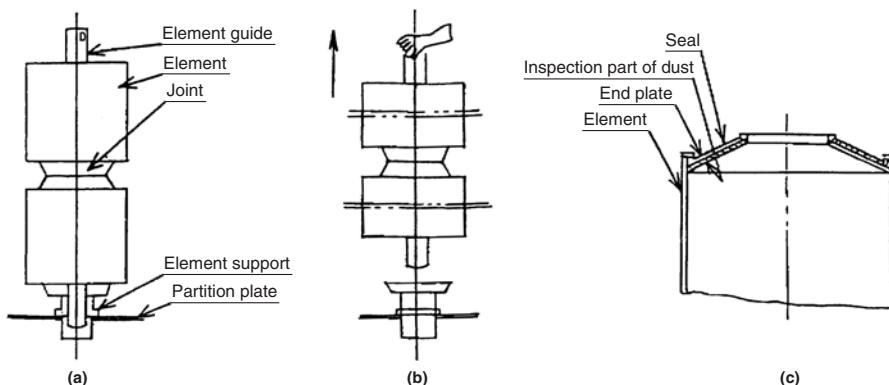

Fig. 1
After the element holder is taken out, if the element guide is taken out in such a manner as shown in Fig. 1, the element and joint can be taken out together.
- 5-1. In the case of micro mesh element (cylindrical or pleat type (spherical seal is not used)) and sintered element, be sure to remove dust completely between end plate and seal completely. (Refer to Fig. 1 (c))